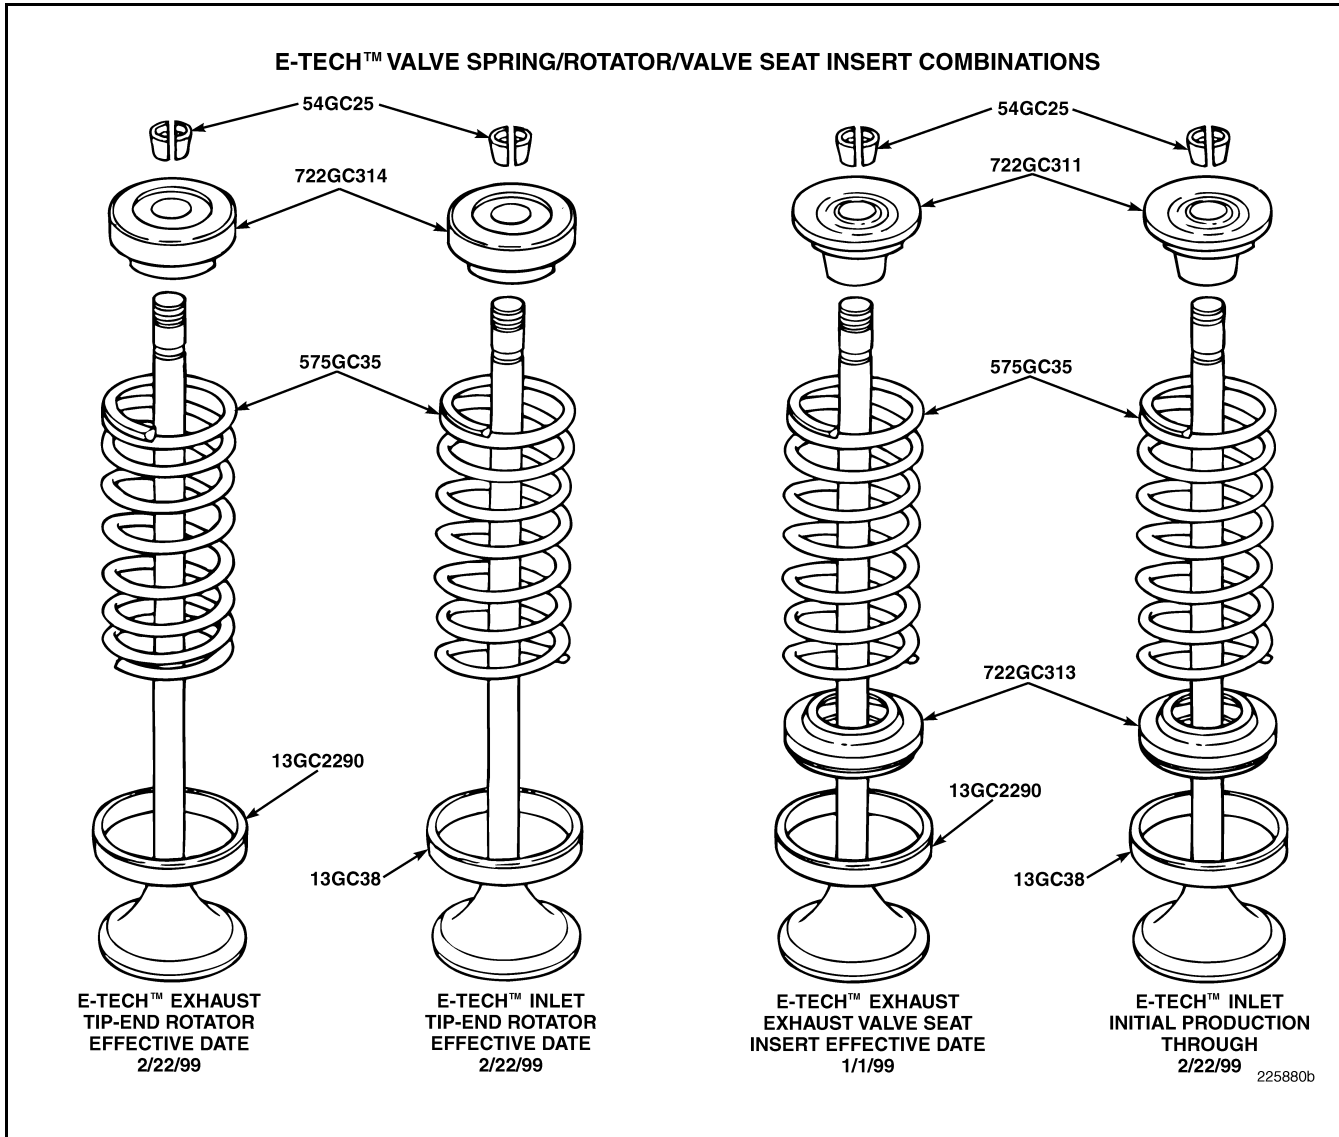
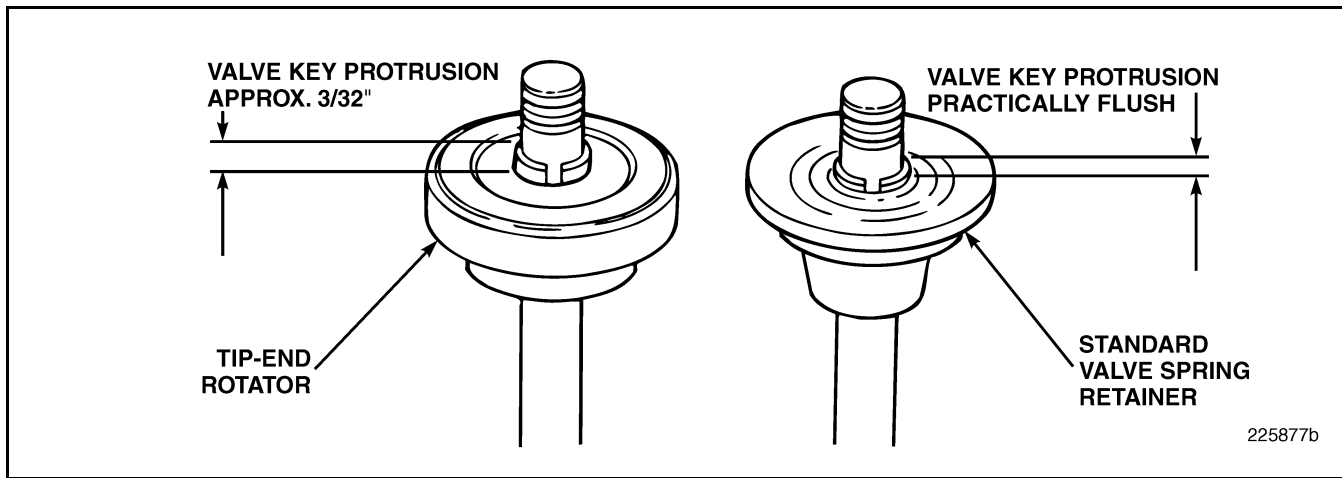

Figure 176 — Valve Spring, Rotator and Valve Seat Insert Combinations
Figure 177 — Valve Key Protrusion
Current-production engines use a tip-end valve rotator (P/N 722GC314) as shown in Figure 176. The tip-end rotator is installed at the top of the valve spring, and replaces the bottom rotator which was used on early-production engines. With the tip-end valve rotators, there is a greater amount of valve key protrusion above the rotator when compared with the key protrusion above the valve spring retainer washers on early-production engines. The top of the valve keys are practically flush with the top of the valve retainer washers. The tip-end rotator, however, has an undercut on top, so the top of the key protrudes approximately 3/32-inch as shown in Figure 177.
4. With the valve spring keepers removed, remove the upper washer or tip-end rotator, valve spring, oil seal, lower washer (Roto-Coil) if so equipped, and valve. Refer to Figure 176.